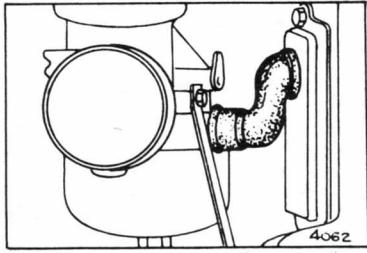

FIGURE 6-4
4. Check the vent tube for damage and correct seal. See figure 6-4.